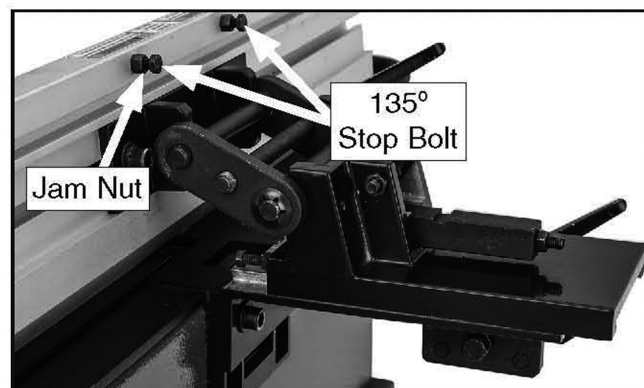

Figure 32. 135° fence stop detail.
5. With outward stop bolt resting against fence bracket, adjust length of stop bolt until fence is at 135°, then tighten jam nut (see **Figure 32**).